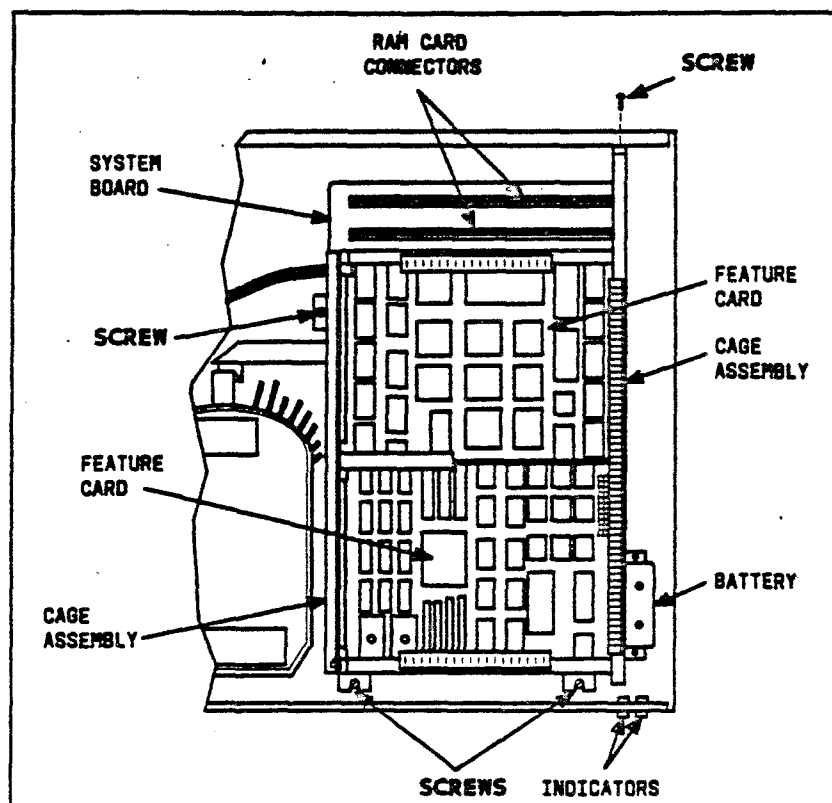

Figure 4-6. Removing Feature Card Cage Assembly
2. Remove and save the four screws holding the cage assembly to the chassis. (See Figure 4-6.)